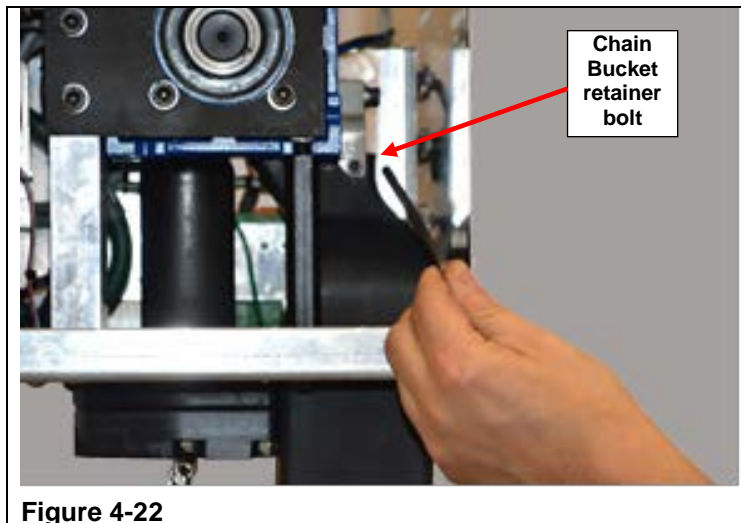

Figure 4-22
- Remove the (2) two M6 screws on the bottom of each of the covers.
- Step 11. While supporting the chain buckets, remove the (1) one M5 retainer bolt that secures both chain buckets inside of the Servo Hoist. (Refer to Figure 4-22)